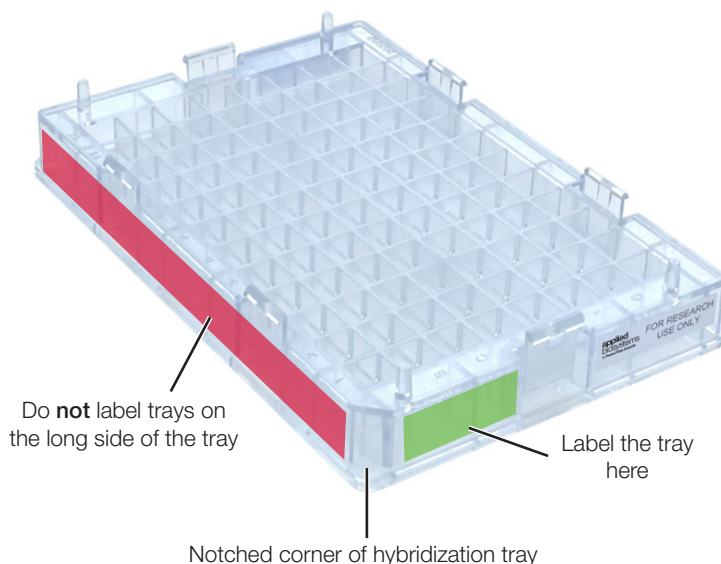

Figure 1. Correct area to label the hybridization tray.
2. Label the hybridization tray; see to Figure 1 and the important note below the figure.